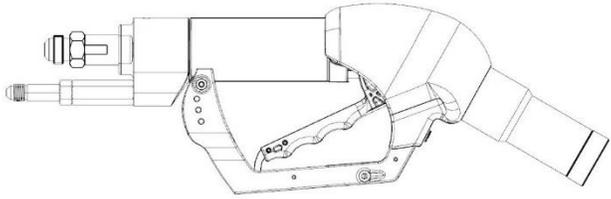

Figure 2 – Lever OFF position
1. Remove the nozzle from the rest position and verify the lever is in the lower un-latched OFF position (Figure 2).